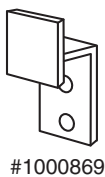

Fig. 9a: Right-Hand Outswing Door.
- Install keeper (Fig. 9a) and clothes hook using #1002499 screws. **NOTE: On outswing door, position clothes hook per local accessible toilet compartment codes. For perpendicular alcove (Fig. 9b) set keeper in place ensuring latch slides properly, mark location and install using #1002499 screws.**
- Drill two (2) 3/16" (5mm) diameter holes through door. Attach handle to outside of door using 8-32 x 1" (4.2 x 25mm) pin-head torx screws.